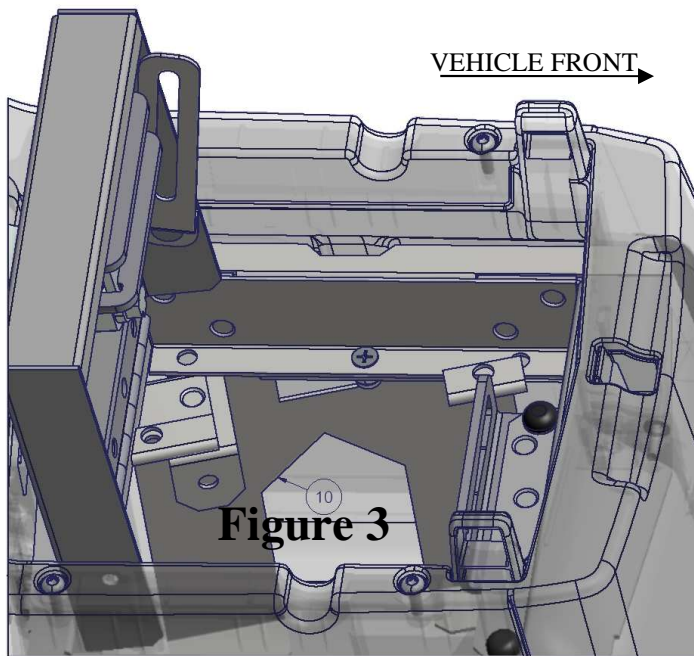

Figure 3
6. Move the #10 Left Brace into position by slipping the hem over the lower horizontal flange of the Console Insert collar and rotating it so the mounting holes align. (See Figures 3 and 4)